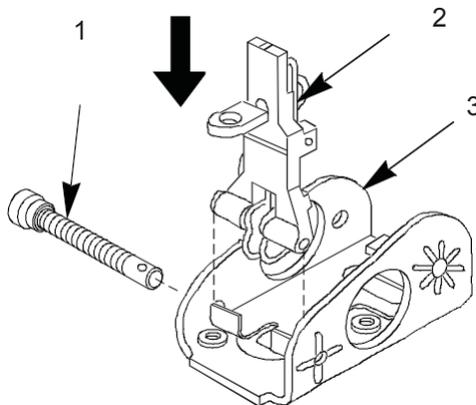

Figure 35. Sight Leaf Assembly, Rear Sight Base, Machine Screw.
4. Position sight leaf assembly (Figure 35, Item 2) into rear sight base (Figure 35, Item 3). Install machine screw (Figure 35, Item 1) through right side front hole and screw through both sight leaf assembly (Figure 35, Item 2) and left side front hole of rear sight base (Figure 35, Item 3).